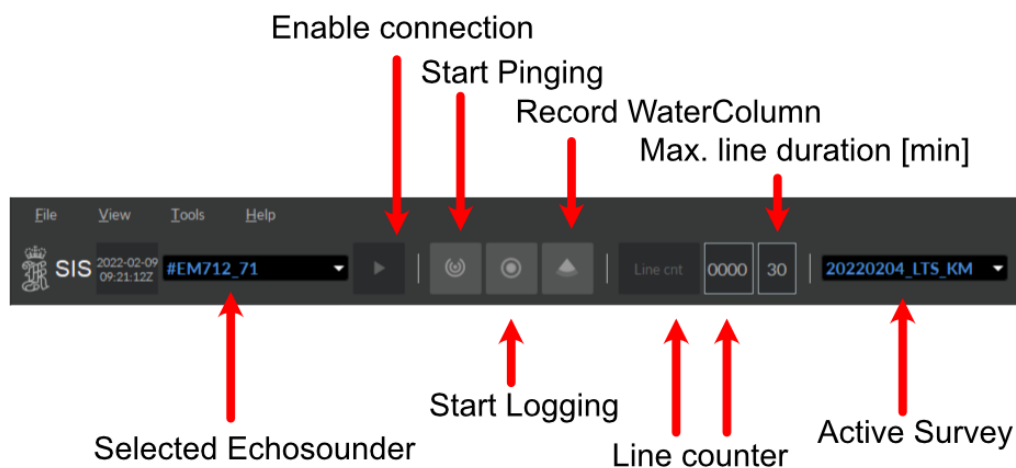

Figure 11: The main frame
Before starting pinging, the echo sounder must be turned on. Select the echo sounder from the **Echo sounder - not started** combo box (Figure 11). The **Logging** and **Pinging** buttons will all be disabled until the echo sounder is ready. When the echo sounder is ready, pinging can be started.
Pinging must be started manually after the echo sounder is ready. Press the **Pinging** button on the toolbar. The button is red when **Off** and green when **On** (Figure 11).
**Logging** must be started manually after the echo sounder is ready. When the echo sounder has started logging, data is automatically saved to disk in \*.kml file format (Figure 11).
For logging the water column data press the **WCL** button on the toolbar it will turn from grey to red if logging is enabled and will turn green during logging (Figure 11). This data will be written to \*.wcd files in your selected folder, separately from the \*.all files.
- Observe the three status lamps on the main toolbar which give status of hardware units (applies to multibeam echo sounders only) (Figure 11).